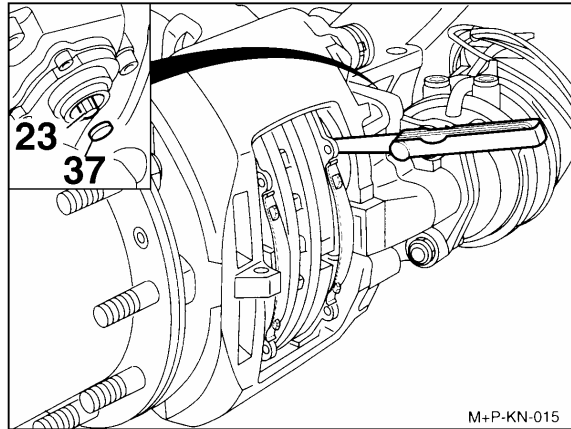

FIGURE 12: RUNNING CLEARANCE
- a. Insert a feeler gauge 0.028 inch (0.7 mm thickness) between tappet and pad backplate. Turn adjuster pinion clockwise until 0.028 inch (0.7 mm) clearance is achieved (fig. 12). Replace the cap (37) (Prévost # 641313).
- b. To ensure a constant running clearance between the rotor and the pads, the brake is equipped with an automatic adjuster unit. When the pads and rotor wear, the running clearance between the pads and rotor increases. The adjuster (23) and turning device turn the threaded tubes by the amount necessary to compensate the wear. Total running clearance should be between 0.020 and 0.035 inch (0.5 and 0.9 mm). Smaller clearances may lead to overheating problems.